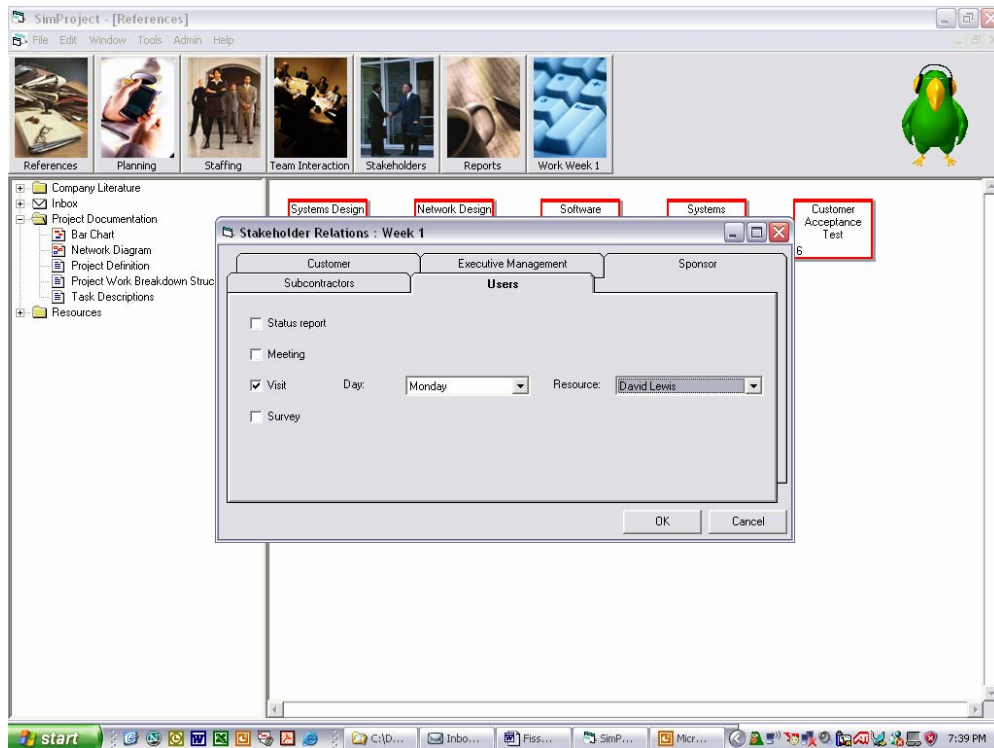

Figure 13 - Stakeholders Relations Decisions by Stakeholder and Interaction
- Stakeholder Relations – select the stakeholder and the interaction (Figure 13)